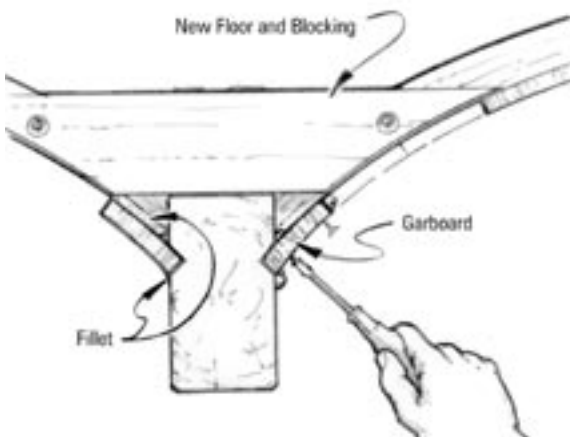

Figure 5-12 Bond the garboard back into position next to the keel.
5. Install the garboard with the original screws (*Figure 5-12*). Start at the middle and work toward both ends.